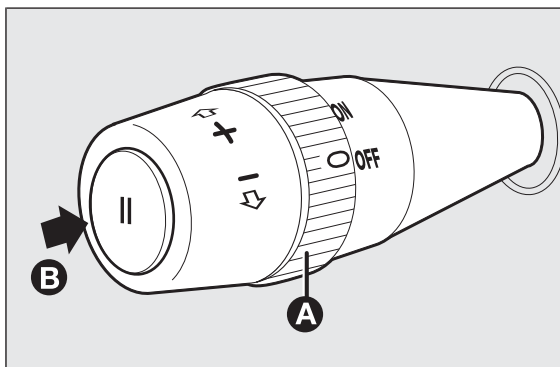

fig. 73
- ☐ turn ring nut A fig. 73 to ON and press the accelerator pedal so that the vehicle reaches the desired speed;
- ☐ press button B fig. 73.